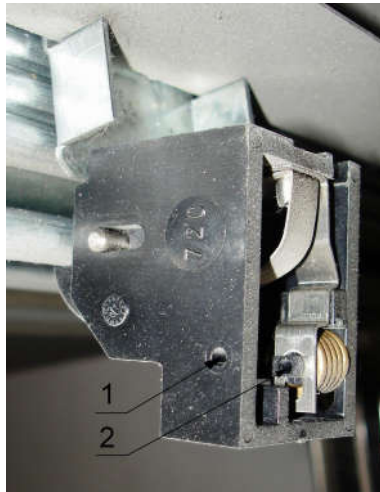

Figure 9. Electromagnetic release device cassette.
- in the releasing cassette, push the wire, respectively, through openings 1 and 2 marked in figure 9. The end of the release device wire is equipped with the counter screw, which is to be demounted before assembly. Having pushed the wire through the holes, the counter screw is locked again.